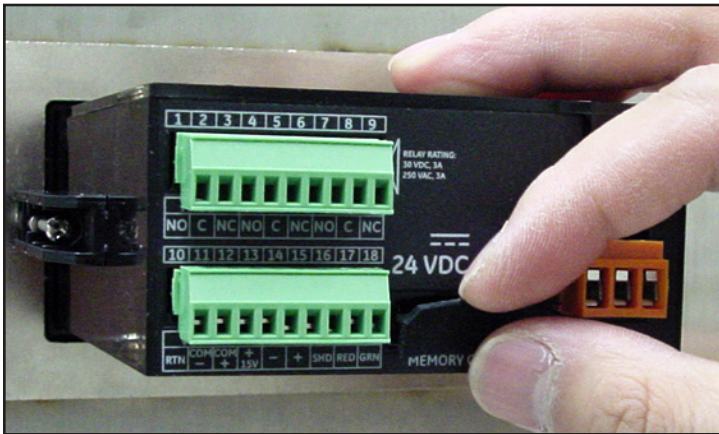
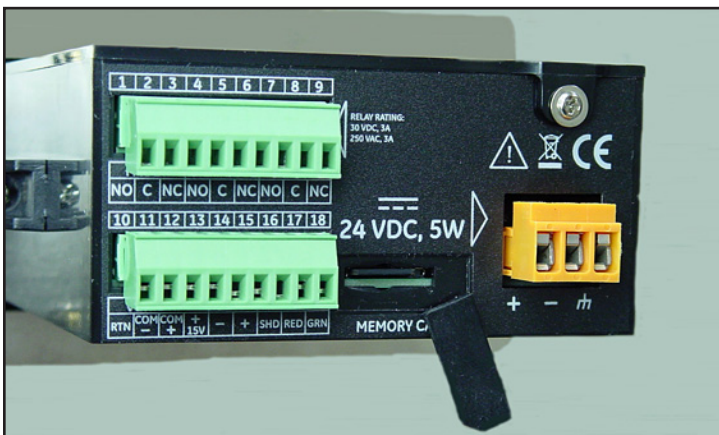

Figure 48: Pulling the Flexible Cover
Figure 49: The Exposed Memory Card Holder
1. Locate the memory card in the lower center of the rear panel of the dew.IQ and pull the left side of the flexible cover. The cover is hinged on the right side (see *Figure 48* and *Figure 49* below).